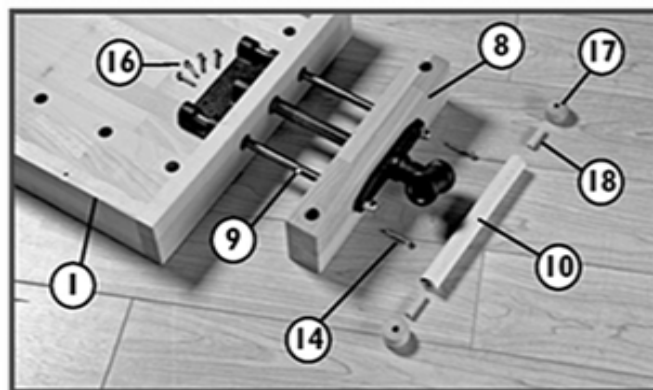

Fig. 4
- Slide the Vise Assembly (9) through holes in the Vise Face (8) and Bench Top (1). Secure Vise Assembly (9) to the Bench Top (1) with four Hex Head 6 x 30mm Bolts (16) and to the Vise Face (8) with two 5 x 50mm Wood Screws (14). Feed the Vise Handle (10) through the Vise Assembly (9) and attach Handle Ends (17) with Dowels (18) (**Fig. 4**). Repeat this process to attach the other Vise Assembly to the front of the Bench Top.